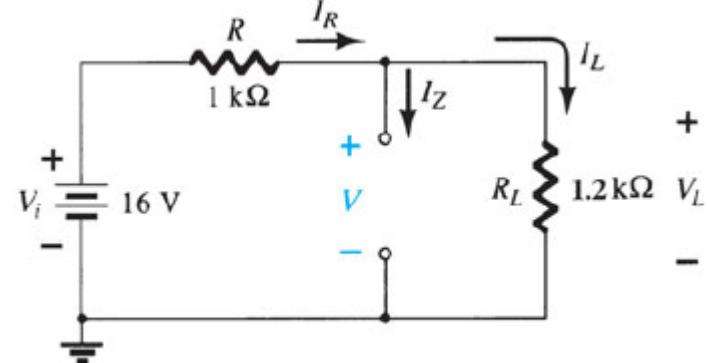
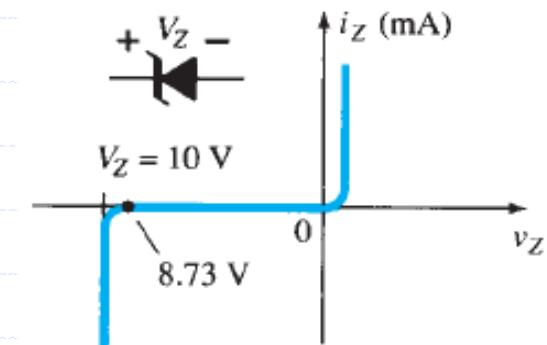

FIG. 2.116
FIG. 2.117
a. Following the suggested procedure, we redraw the network as shown in Fig. 2.116
Since $V = 8.73 \text{ V}$ is less than $V_Z = 10 \text{ V}$, the diode is in the “off” state, as shown on the characteristics of Fig. 2.117. Substituting the open-circuit equivalent results in the same network as in Fig. 2.116, where we find that